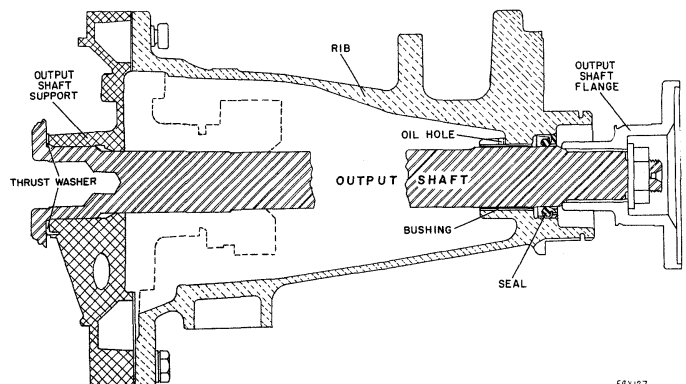

Fig. 119 — Extension Housing
**EXTENSION HOUSING (FIG. 119)**
The hand brake drum and flange assembly now contacts a shoulder (Fig. 119) on the output shaft instead of the race of a ball bearing. The flange assembly has been slightly modified.
washer (Fig. 119) which must be used in conjunction with the new design output shaft and extension housing, a redesigned output shaft support is also required.